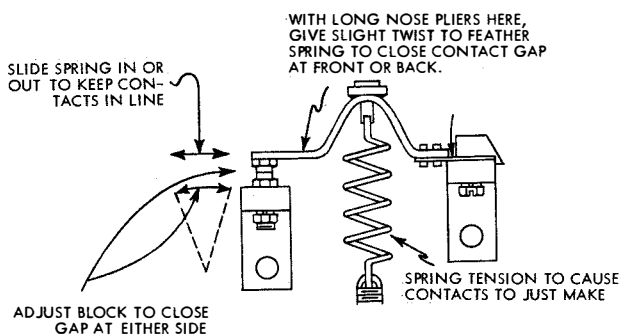

Figure 7-12.—Positioning Governor Contacts
(2) GOVERNOR CONTACTS. (See figure 7-12.)